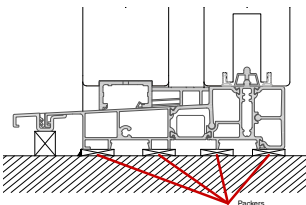

Figure 29: Packing locations to support a door cill
Step 3 - If the door frame is fitted with an extended cill it is important to check that it is adequately supported as shown in Figure 29.